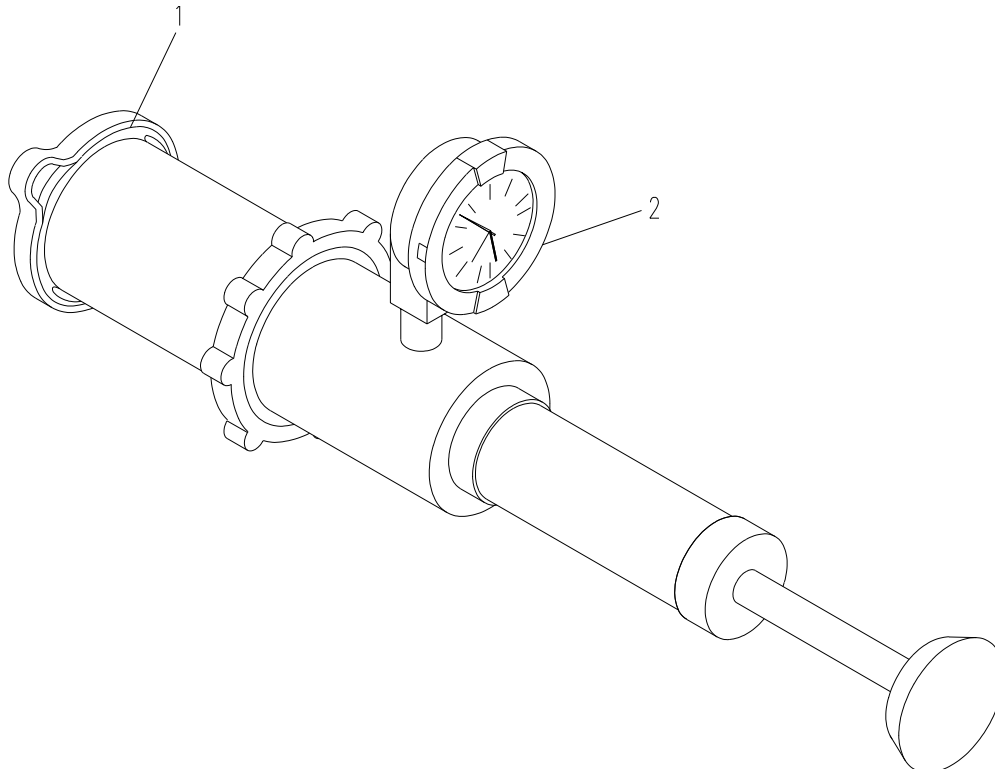

Figure 5-5. Radiator Cap
- a. Connect radiator tester (2, Figure 5-5) to radiator cap (1).
- c. If time is less than 10 seconds, replace radiator cap (1) (para 3.7.).